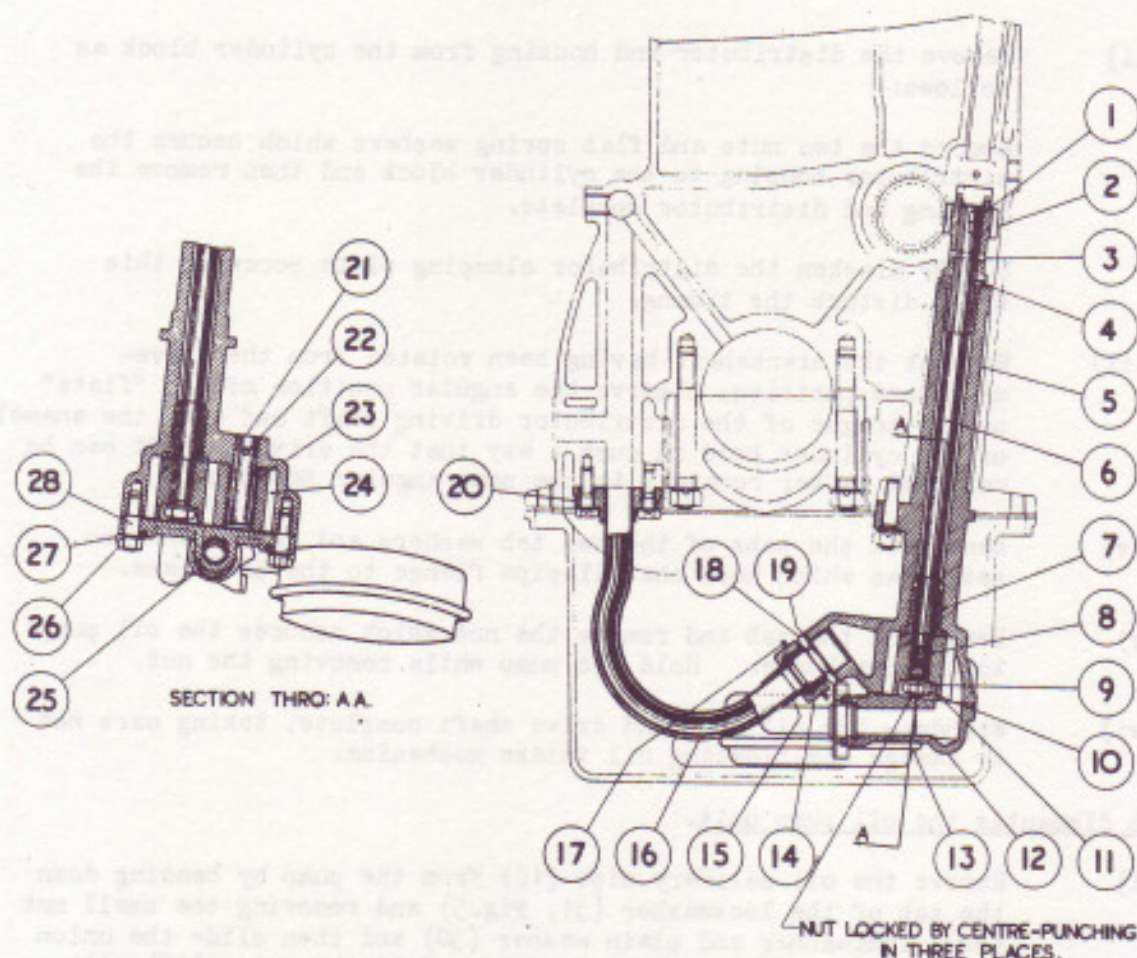
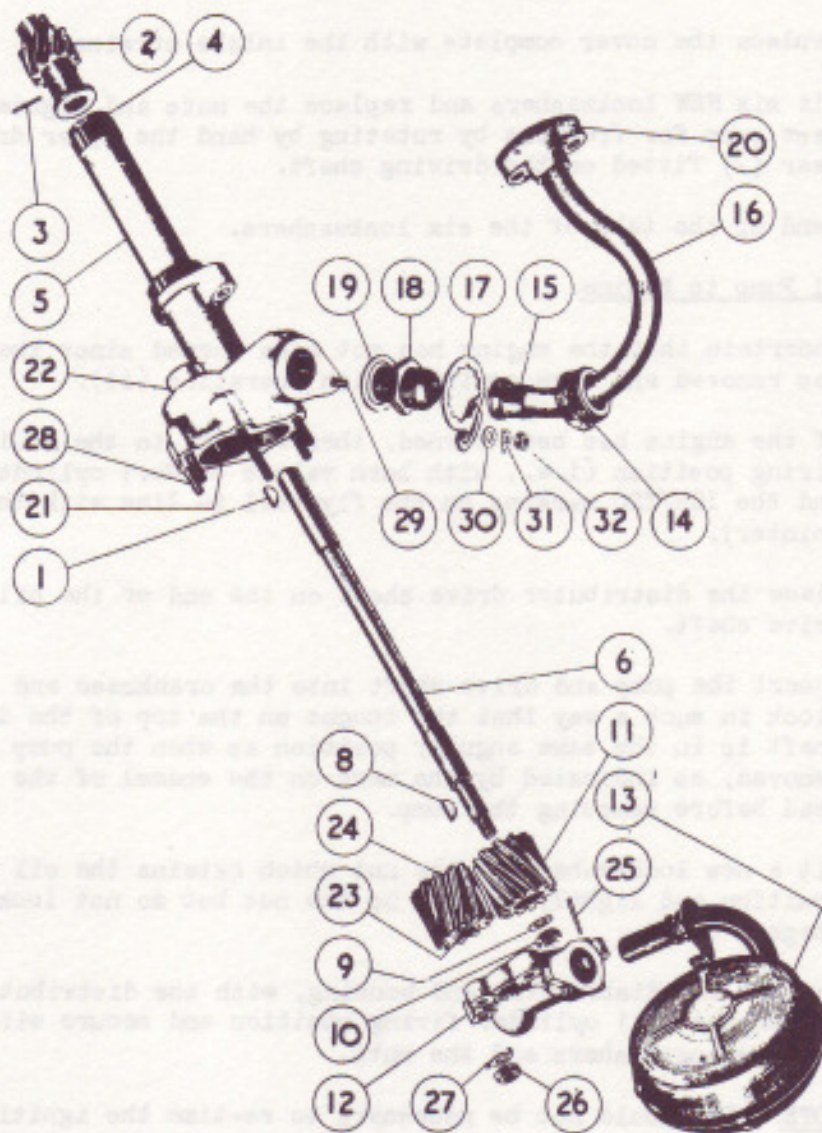

FIG. 4. SECTION THROUGH OIL PUMP AND DRIVE
FIG. 5. OIL PUMP AND DRIVE DISMANTLED.
A floating strainer (13, Figs. 4 and 5), consisting of a wire screen fixed to the lower face of a sheet metal dome with a sealed air compartment, is attached to the inlet on the oil pump cover (12).
The oil pump is shown in position on the engine in Fig.4, and in Fig.5 it is shown dismantled.
| 13. Pump float (Screened intake). | 29. Stud (Fig. 5 only). |
| 14. Union nut. | 30. Plain washer (Fig. 5 only). |
| 15. Nipple. | 31. Lockwasher (Fig. 5 only). |
| 16. Oil delivery pipe. | 32. Nut (Fig. 5 only). |
- (i) Remove the oil delivery pipe (16) from the pump by bending down the tab of the lockwasher (31, Fig.5) and removing the small nut (32), lockwasher and plain washer (30) and then slide the union locking plate (17) on to the pipe. Hold the union (18) with a spanner and slacken off the union nut (14) with a second spanner and remove the pipe.
- (ii) Bend down the tabs of the lockwashers (27) and remove the six nuts (26) and then take off the oil pump end cover (12) complete with the floating intake strainer (13).
- (iii) Remove the driven oil pump gear (24). (This will fall out if the pump is inverted).
- (i) Slacken off the union nut of union 13, (Figs. 5 & 6) holding the union with one spanner while slackening the nut with a second spanner. (This is necessary in order to avoid twisting the pipe). It will be advisable to slacken off a few turns the cap nut as fitted to the side of the "General" By-Pass Filter so as to partially free the oil pipe.
- (ii) Unscrew the "banjo" connection bolt (5) and remove together with the two joint washers (6).